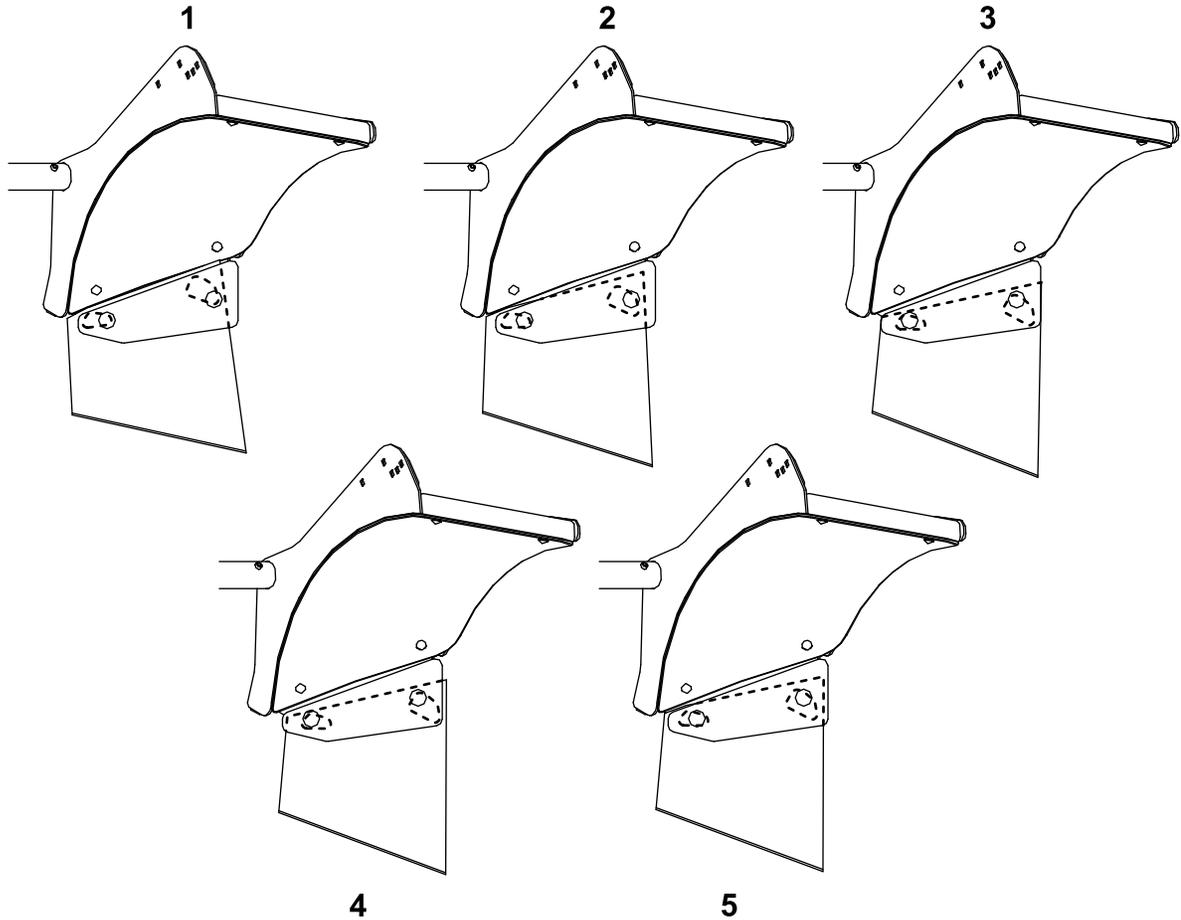

Figure 23
16. Using Figure 23 as a guide, adjust the cutting edge so that it is aligned with the plow cutting edge and flush to the ground.